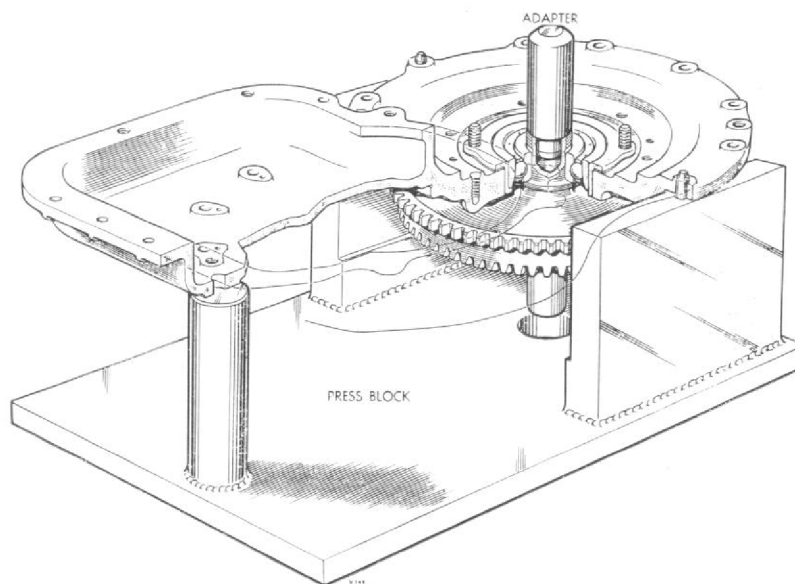

Fig. 5. Press block T.77974 and adapter T.77975 for removing hydraulic pump gear from valve group mounting plate.
7. Position the mounting plate on press block fixture T.77974, Fig. 5, so that the gear spindle is over the hole in the base of the fixture, the mounting plate resting on the two side supporting pedestals of the fixture.